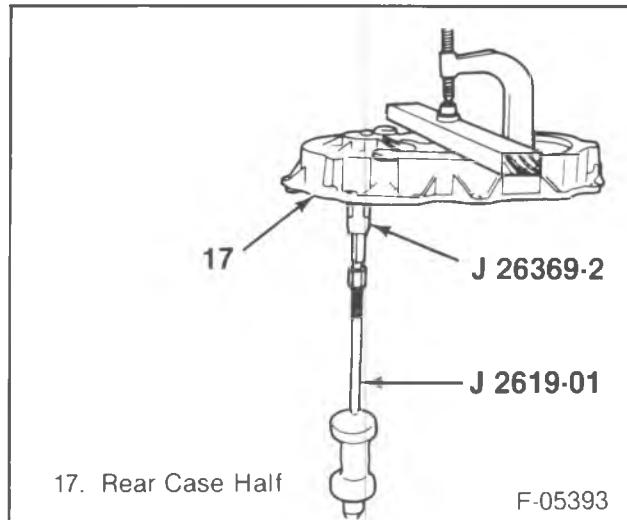

Figure 9—Front Output Shaft Rear Bearing Removal
17. Seal (1) from the mainshaft extension housing (4).
18. Seal (42) from the input bearing retainer (44).
19. Front output rear bearing (24) from the rear case half (17) using J 2619-01 and J 29369-2 (figure 9).
20. Mainshaft bearing (6) from the oil pump retainer (8) using J 33790.
21. Magnets (25) from the front case half (45).